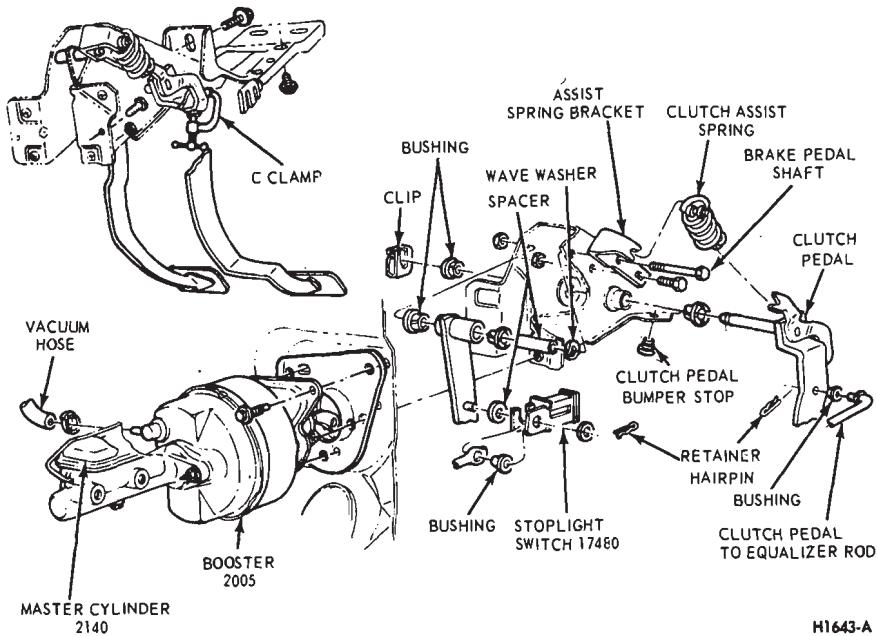

FIG. 12—Master Cylinder Installation—Power Brake—Mustang and Cougar
4. Working inside the vehicle, secure the clutch pedal against the bumper stop with a small C-clamp as shown in Fig. 12.
8. Remove the screw retaining the pedal support bracket to the top inner cowl bracket (Fig. 12).
3. Install the clutch pedal assist spring and pivot the clutch pedal against its bumper stop. Secure the pedal to the stop with a small C-clamp as shown in Fig. 12.